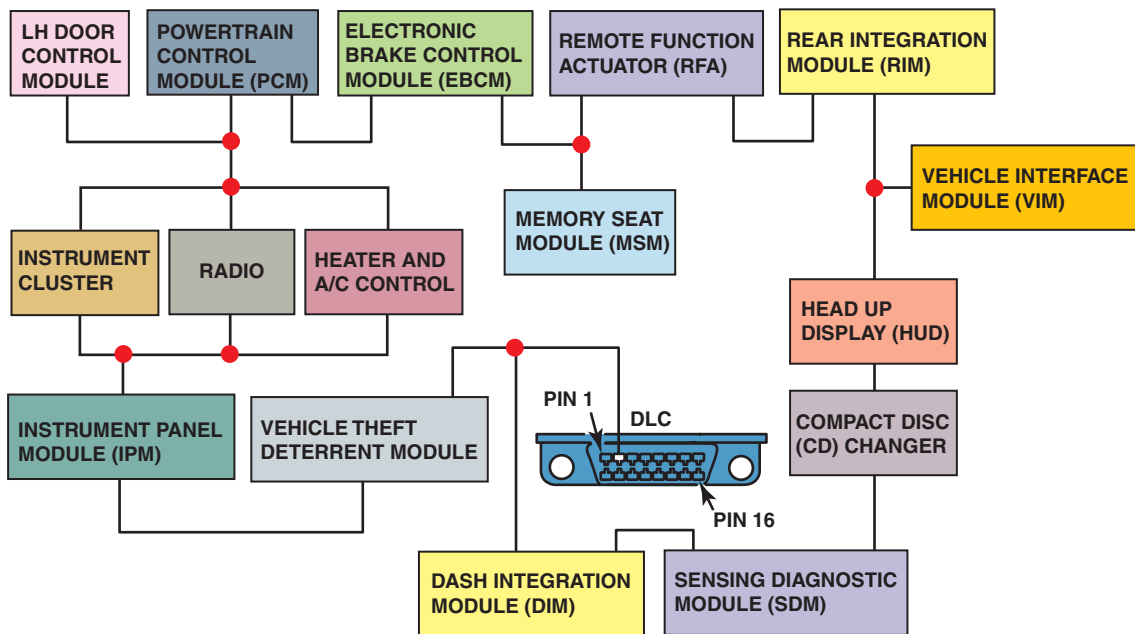

FIGURE 12-3 A ring link network reduces the number of wires it takes to interconnect all of the modules.
1. **Ring link networks.** In a ring-type network, all modules are connected to each other by a serial data line (in a line) until all are connected in a ring. ● **SEE FIGURE 12-3.**